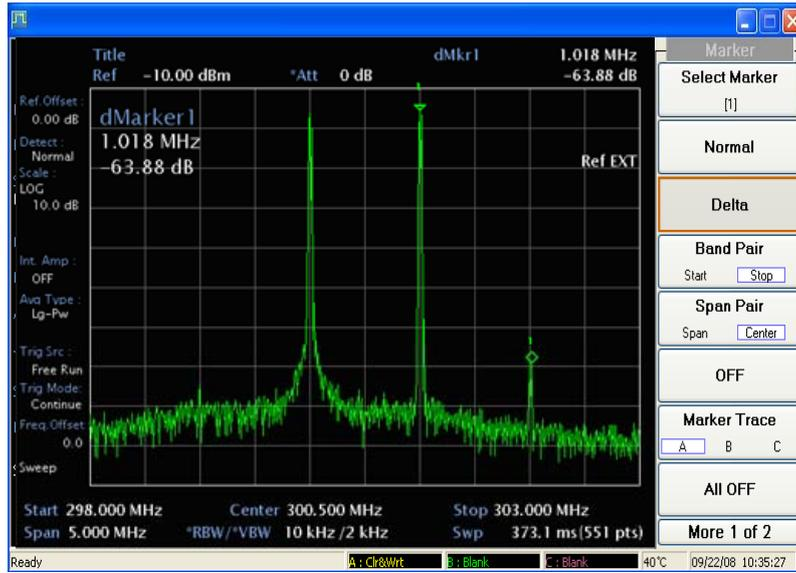

Fig. A-18 Measuring the distortion product
- 5 To measure the other distortion product, press [PEAK], [*Next Pk Left*] or [*Next Pk Right*]. This places a marker on the next highest peak, which, in this case, is the other source signal. To measure the difference between this test signal and the second distortion product, press [MARKER], [*Delta*] and use the knob to adjust the second marker to the peak of the second distortion product: see Fig. A-18.